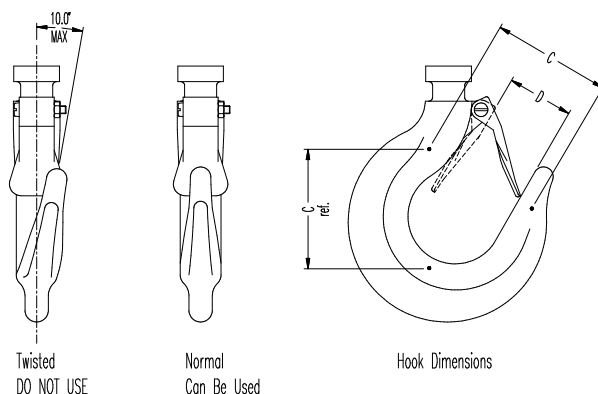

Figure 4. Hook Dimensions and Wear Limits
2. **HOOKS.** Check for wear or damage, increased throat width, bent shank or twisting of the hook. Replace hooks which exceed the throat opening specified in Table 2 or exceed a 10° twist (see **Figure 4**). If the hook latch snaps past the tip of the hook, the hook is sprung and must be replaced. Check hook support swivels for excessive clearance or damage. Ensure they swivel easily and smoothly.